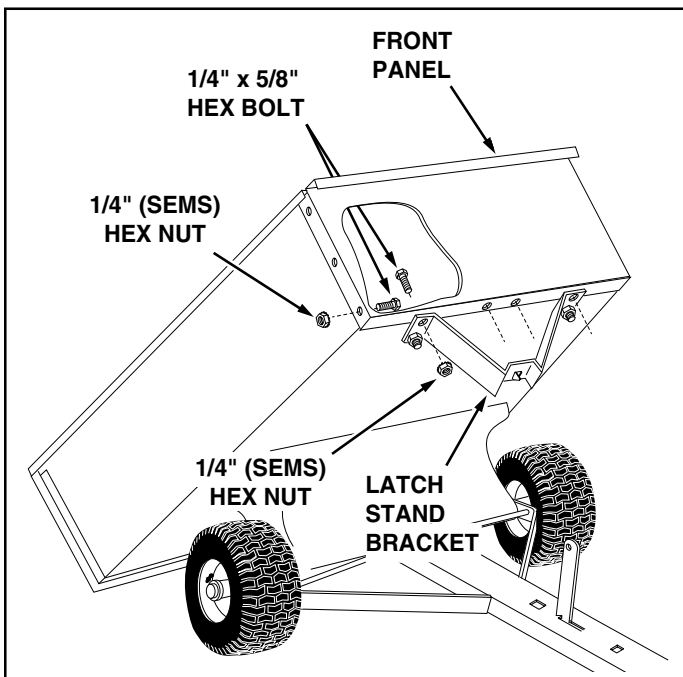

FIGURE 9
19. Release the latch lock lever and tilt the cart bed back. See figure 9.
20. Assemble the front panel to the cart, sliding the bottom lip of the panel between the cart and the latch stand bracket. Secure with six 1/4" x 5/8" hex bolts and 1/4" SEMS hex nuts. Leave the upper holes on the sides empty. **Do not tighten yet.** See figure 9.